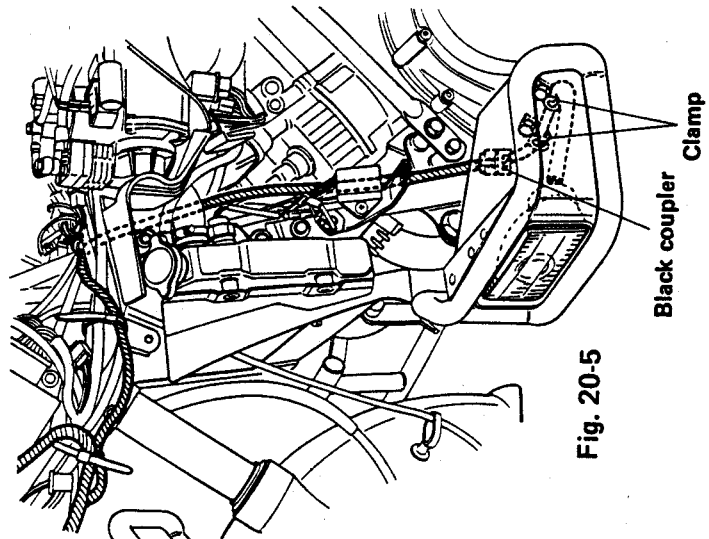

Fig. 20-5
- 6) Route and connect the left cornering lamp lead wire as shown in Fig. 20-5.